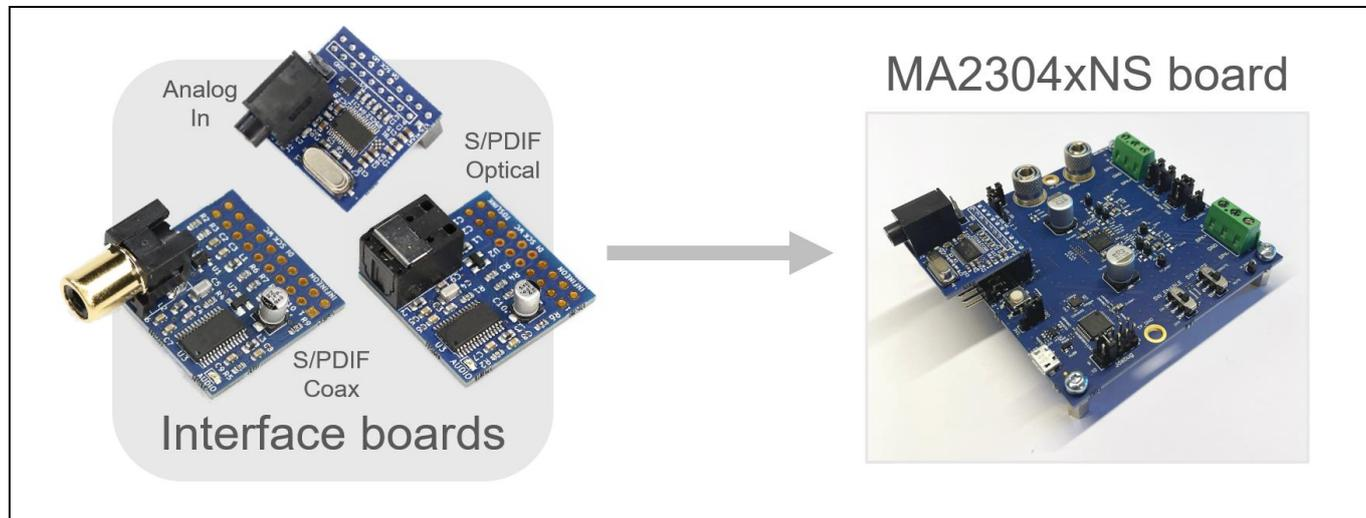

**Figure 1** Setup for “speaker test” or “datasheet spec test”
2. Loudspeaker and speaker wires, as shown in **Figure 1**
In addition, for datasheet spec testing, as shown in **Figure 1**: